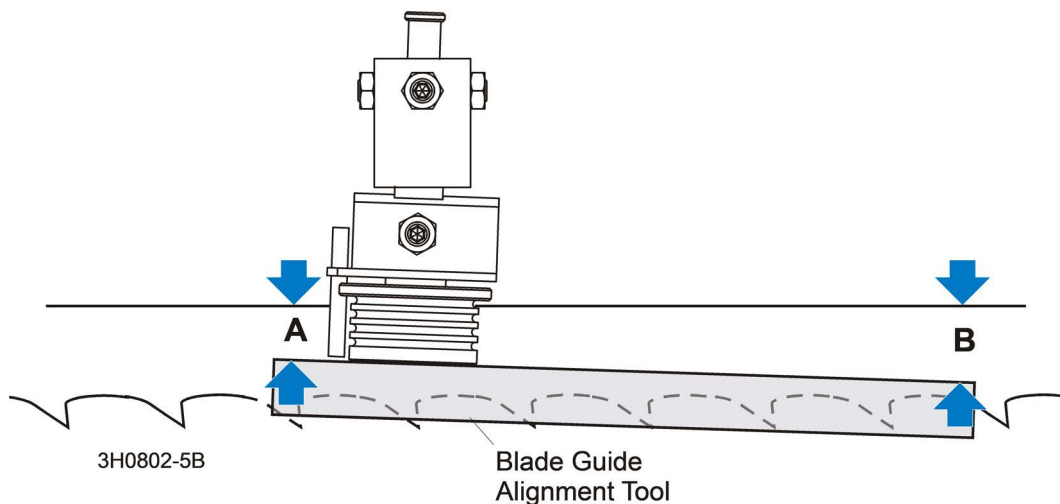

FIG. 7-6
2. Remove the clip from the blade guide alignment tool and place the tool against the face of the outer blade guide roller. See FIG. 7-6.